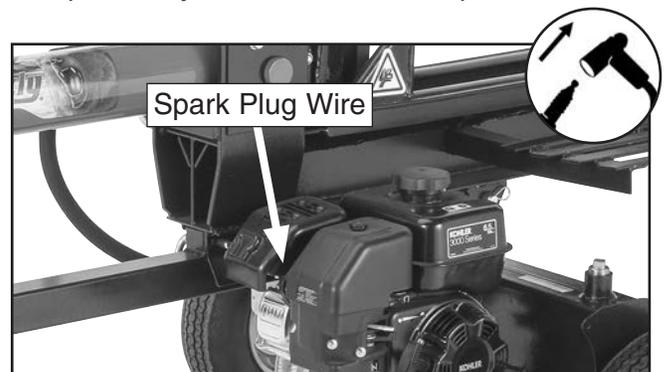

Figure 32. Location of spark plug.
- DISCONNECT SPARK PLUG WIRE (see **Figure 32**) from spark plug to prevent possibility of accidental start-up.